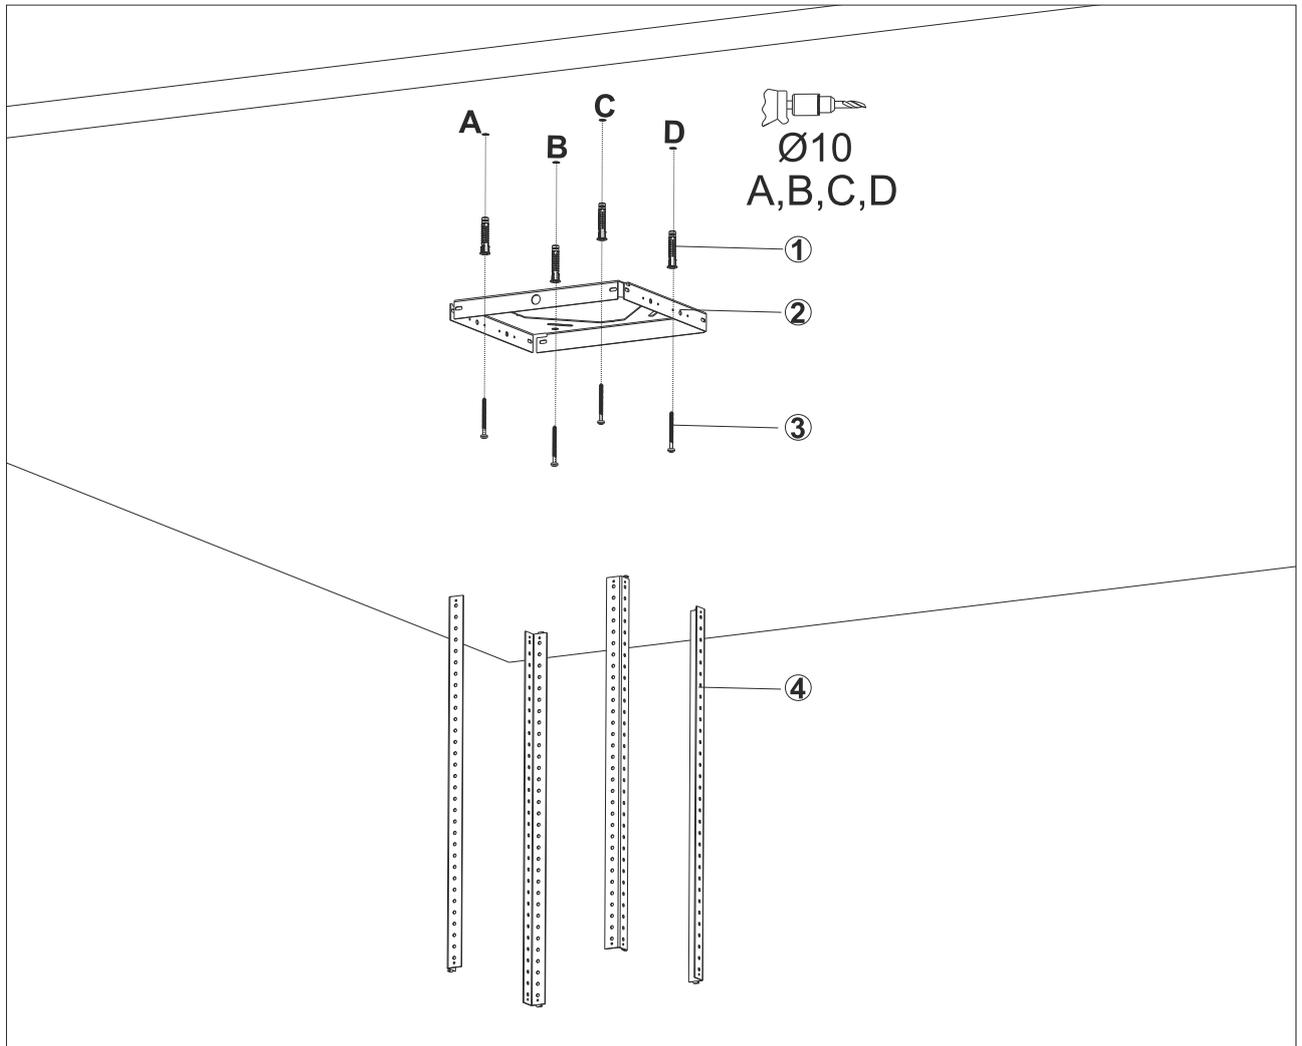

Fig. 10
1. ➤ Drill the surface where product will be installed from the points A, B, C, D with Ø10 mm drill (Fig. 10).
2. ➤ Insert Ø10 mm plastic dowels (1) into the drilled points A,B,C,D (Fig. 10).
3. ➤ Install the Ceiling Connection plate to the ceiling at points A,B,C,D with 5.5x60 screws (3) (Fig. 10).